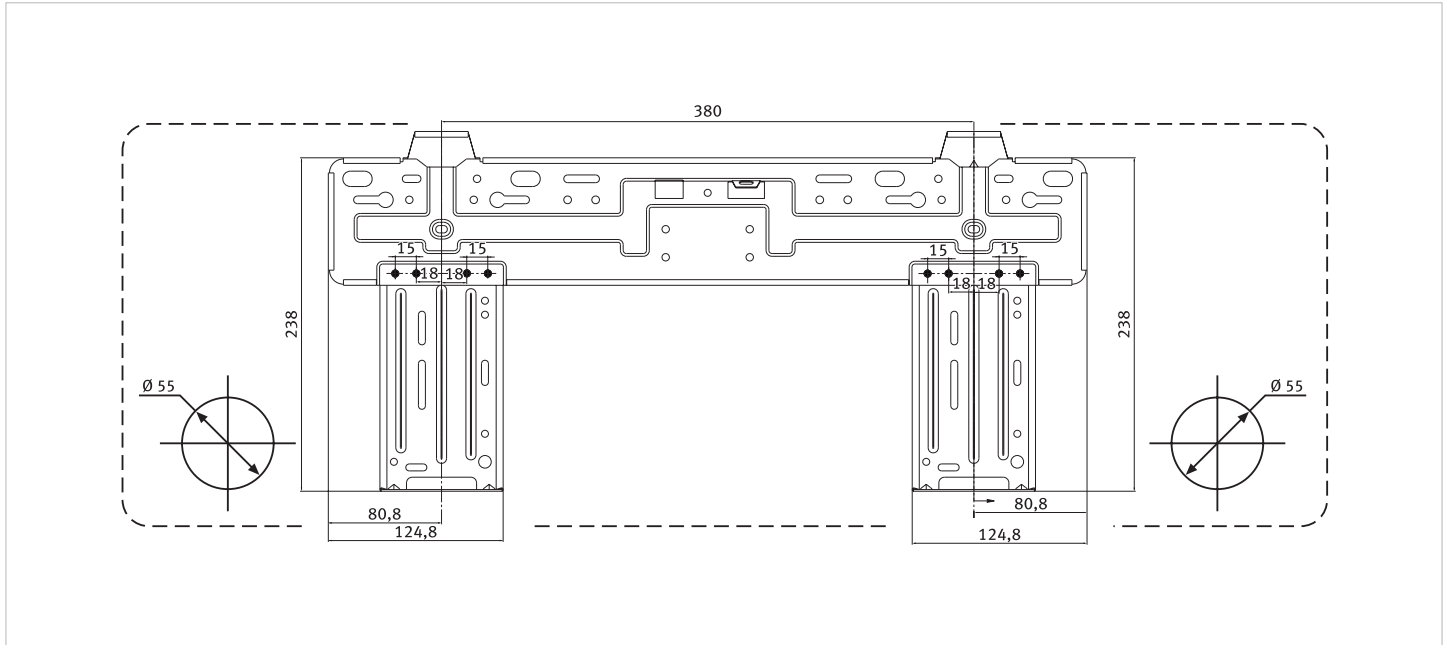

Fig. 9.6 Mounting plate for 17-025 NWI and 17-035 NWI.
In this case, a suitable hole must be made in the wall behind the unit (see Figure 9.6).
- Drill a hole in accordance with the diameter and position as indicated in Figures 9.6, ensure the hole is slightly descending to the outside to allow for a fall in the drain line.